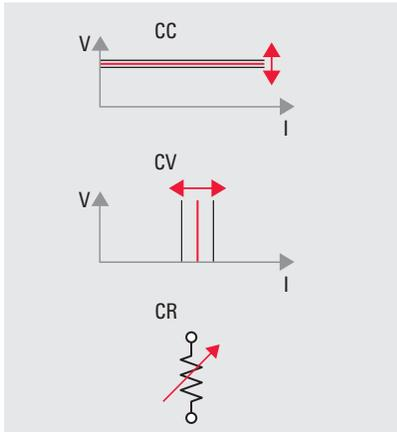

Figure 1. CC, CV, and CR modes
A DC electronic load (eload) is a device with an adjustable load resistance that can dissipate and measure the output DC power of a device under test (DUT). Eloads can typically measure both the output current of the DUT and the voltage that the DUT is dropping across the eload. Eloads typically have three operation modes: constant current (CC), constant voltage (CV), and constant resistance (CR). In each operation mode the set variable remains constant while the other inputs vary depending on the source and the eload settings. These modes are represented in Figure 1.